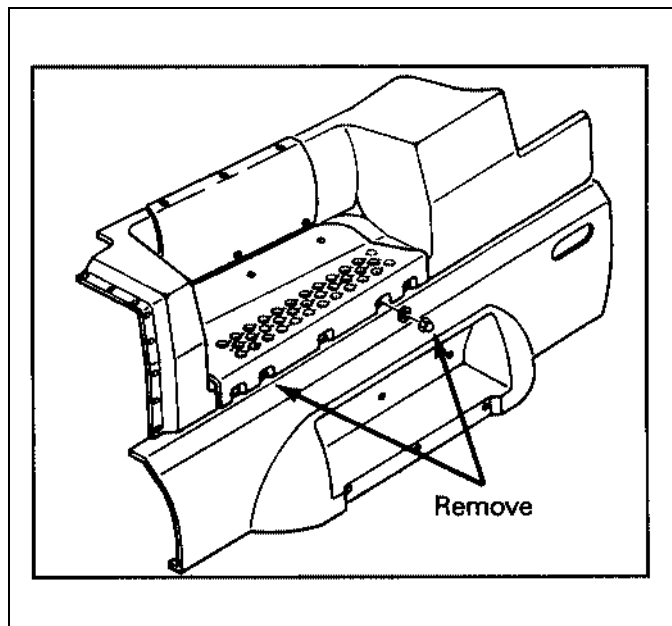

Figure 15-1
1. Remove 2 nuts that secure cab access step. See Figure 15-1.